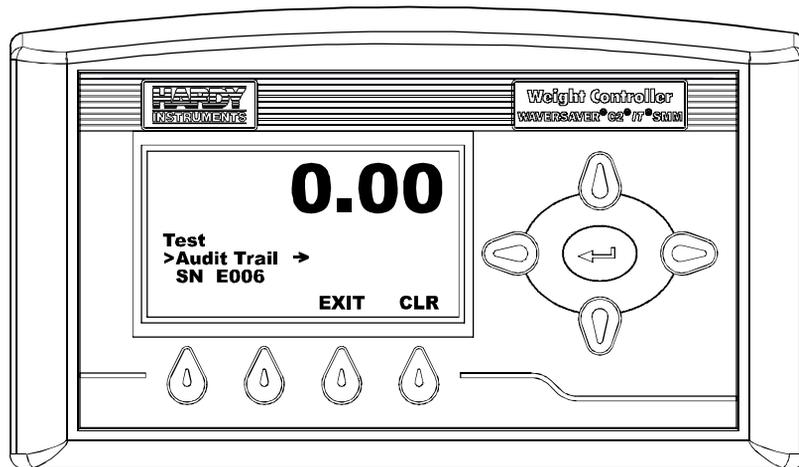

FIG. 406 TEST MENU/SELECTING AUDIT TRAIL
Step 8. Press the Exit button again to return to the Test Menu. (See Fig. 406)